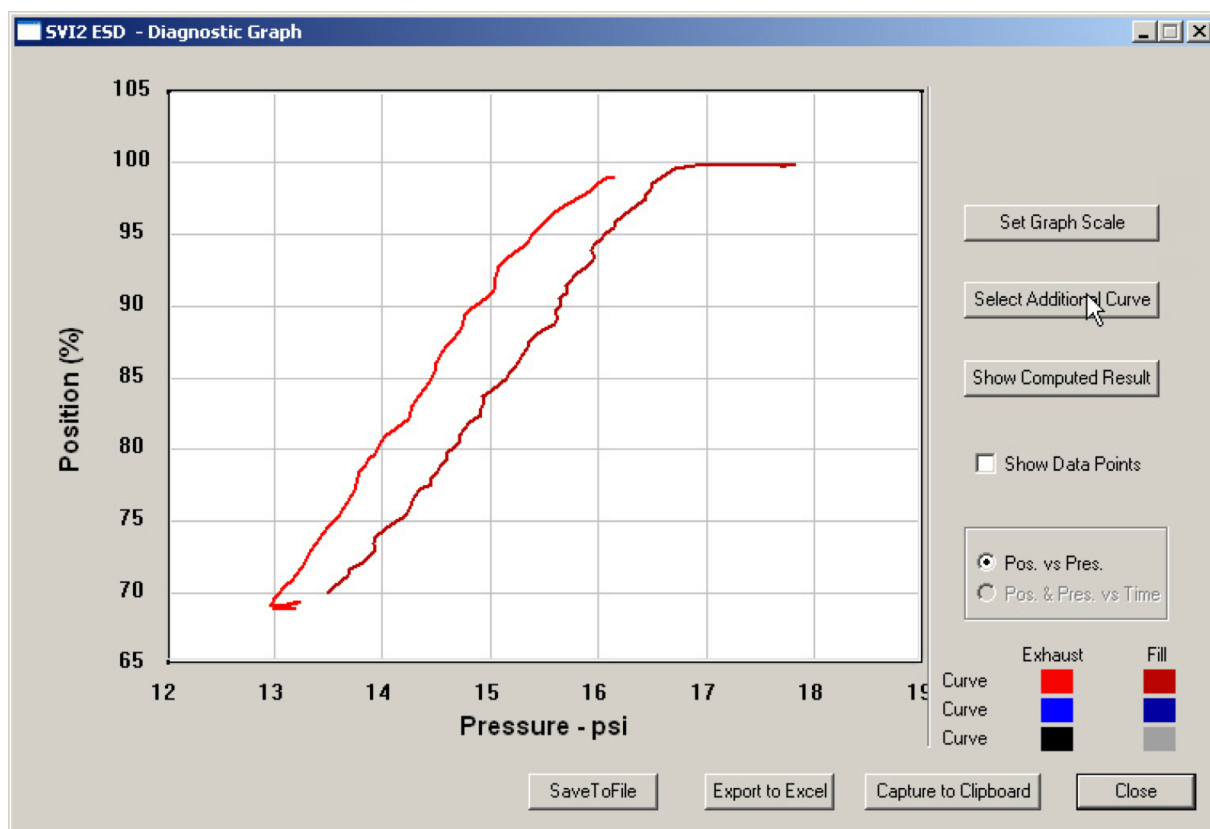

Figure 210 - Starting Select Additional Curve
1. Click **Select Additional Curve** (*Figure 210*).